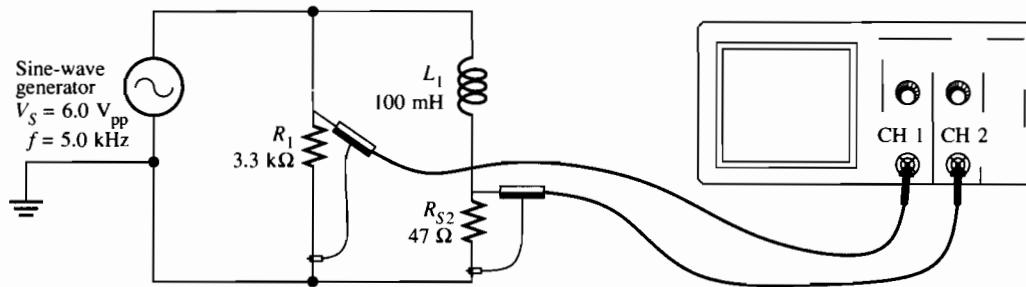

Figure 26-4
- Replace R_{S1} with a jumper. This procedure enables you to reference the low side of R_1 and R_{S2} . Measure the angle between I_L and I_R by connecting the probes as shown in Figure 26-4. Ideally, this measurement should be 90°, but because of the coil resistance, you will likely find a smaller value. Adjust both channels for the same apparent amplitude on the scope face. Record your measured result in the second line in Table 26-2.